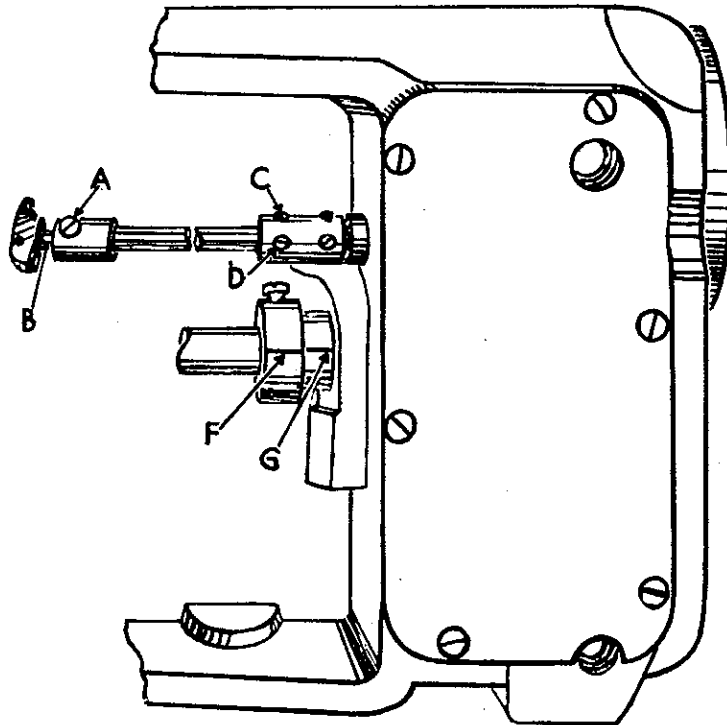
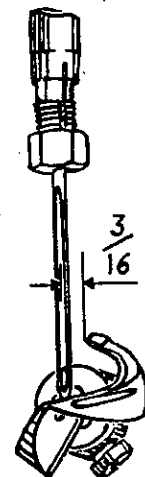
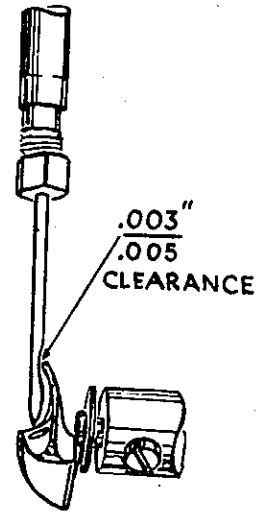

Fig. 1
Fig. 2
Fig. 3
The hook should be placed in the hook shaft so that the set screw (A, Fig. 1) in the shaft bears against the flat (B) on the shank of the hook and the set screw should be firmly tightened. With the needle bar in its lowest position, the hook should be set so that its point is $\frac{3}{16}$ inch from the center of the needle (Fig. 2). Gauge No. 21225- $\frac{3}{16}$ can be used advantageously in making this adjustment. In order to obtain the above setting when the hook is out of adjustment, it becomes necessary to re-time the hook shaft.
In re-timing the hook shaft, the two screws (C,D, Fig. 1) in the hook shaft coupling should be loosened so the hook shaft turns freely. The shaft should then be turned with the fingers and the hook located properly, maintaining the needle bar in its lowest position. Retighten coupling screws securely.
The hook should also be set laterally so there is approximately .003 inch to .005 inch clearance between the spot in the needle and the point of the hook (Fig. 3). This is done by loosening set screw (A, Fig. 1) and moving the hook to the left or to the right as may be required and retightening the screw.